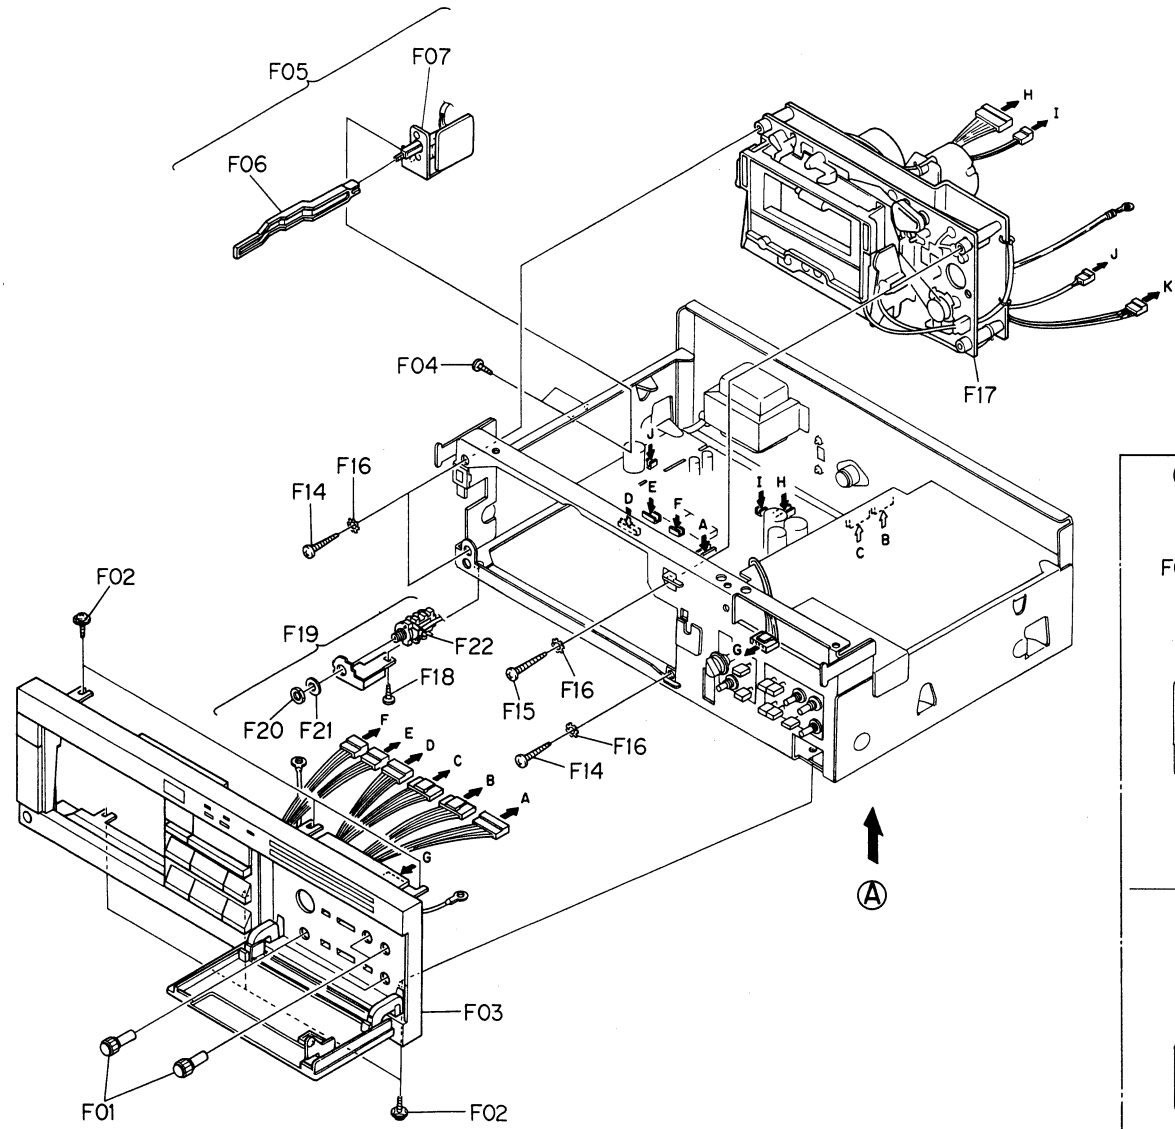

Fig. 2.2
Refer to Fig. 2.2.
- (1) Refer to Fig. 2.2. Remove Front Panel Ass'y referring to item 2.4.
- (2) Remove F09, then disassemble F10 (Amp. Shield Cover Plate).
- (3) Pull out F11 (Selector Knob) and F12 (Switch Knobs).
- (4) Remove F13 and F14, then disassemble F15 (Main P.C.B. Ass'y and Amp. Switch P.C.B. Ass'y).
- (5) Remove F16, F17 and F18, then disassemble F19 (Main P.C.B. Ass'y).
- (6) Remove F20, F21 and F22, then disassemble F23 (Amp. Switch P.C.B. Ass'y).
- (2) Remove F01, then disassemble F02 (LED Level Indicator Ass'y).
- (3) Remove F03, then disassemble F04 (Indicator P.C.B. Ass'y).
- (4) Remove F05, then disassemble F06 (Control Switch P.C.B. Ass'y).
- (5) Remove F07 and F08, then disassemble F09 (Counter P.C.B. Ass'y).
- (6) Remove F10, then disassemble F11 (Counter-1 P.C.B. Ass'y and Counter-2 P.C.B. Ass'y).
- (7) Remove F12, then disassemble F13 (LED P.C.B. Ass'y).
- (1) Refer to Fig. 2.2. Remove Mechanism Ass'y referring to item 2.5.
- (2) Remove F01, then disassemble F02 (Cassette Case Plate Ass'y).
- (3) Remove F03 (Cassette Case Lamp) from Cassette Case Plate, then pull out F04 (Lamp P.C.B.) from F08 (Cassette Case Ass'y).
- (4) Push the Eject Button to open the Cassette Case Ass'y.
- (5) Remove F05 and F06, then disassemble F07 (Cassette Case Holder L Ass'y) by releasing the self-interlocking pin of Damper Lock Arm and F08 (Cassette Case Ass'y).
- (6) Remove F09, then disassemble F10 (Cover Plate Ass'y).
- (2) Remove F01, F02 and F03, then disassemble F04 (Flywheel Holder Ass'y) and F05 (Capstan Belt).
- (3) Remove F06, then disassemble F07 (Capstan Motor Ass'y).
- (4) Remove F08, then disassemble F09 (3P Lug Terminal).
- (5) Remove F10 (Supply Flywheel Ass'y), then disassemble F11 (Take-up Flywheel Ass'y).
- (6) After removing both Flywheel Assemblies, disassemble F12 (Thrust Washer 3mm), F13 (Thrust Washer 2.6mm), F14 (Flange Thrust Cap) and F15 (Flange Thrust Spring).